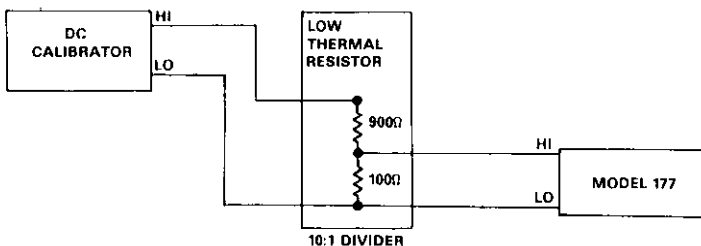

Figure 3-1. Test Circuit For 20mV DC Accuracy Check
8. Connect the DC calibrator, low thermal resistor and Model 177 as shown in Figure 3-1.